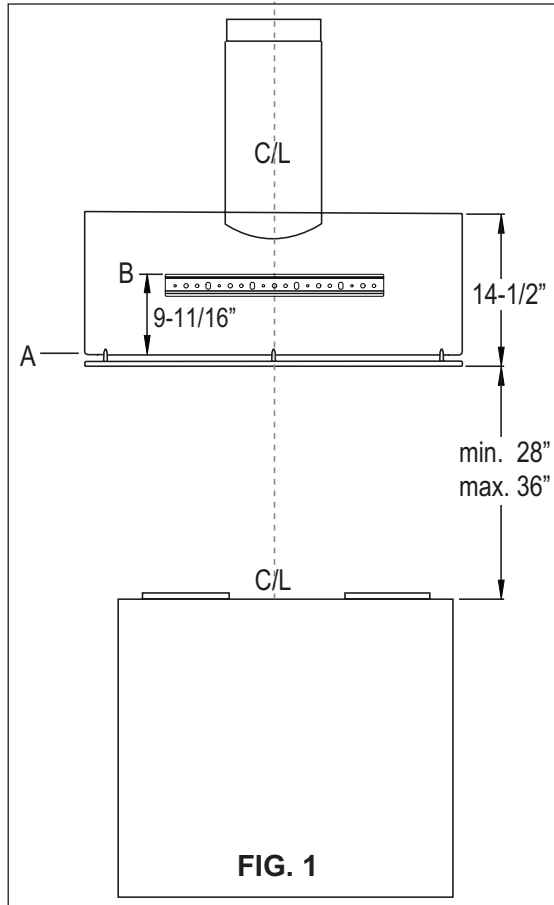

FIG. 1
3. Mark line B, 9-11/16" up from line A. This is the top position of the wall bracket. FIG. 1